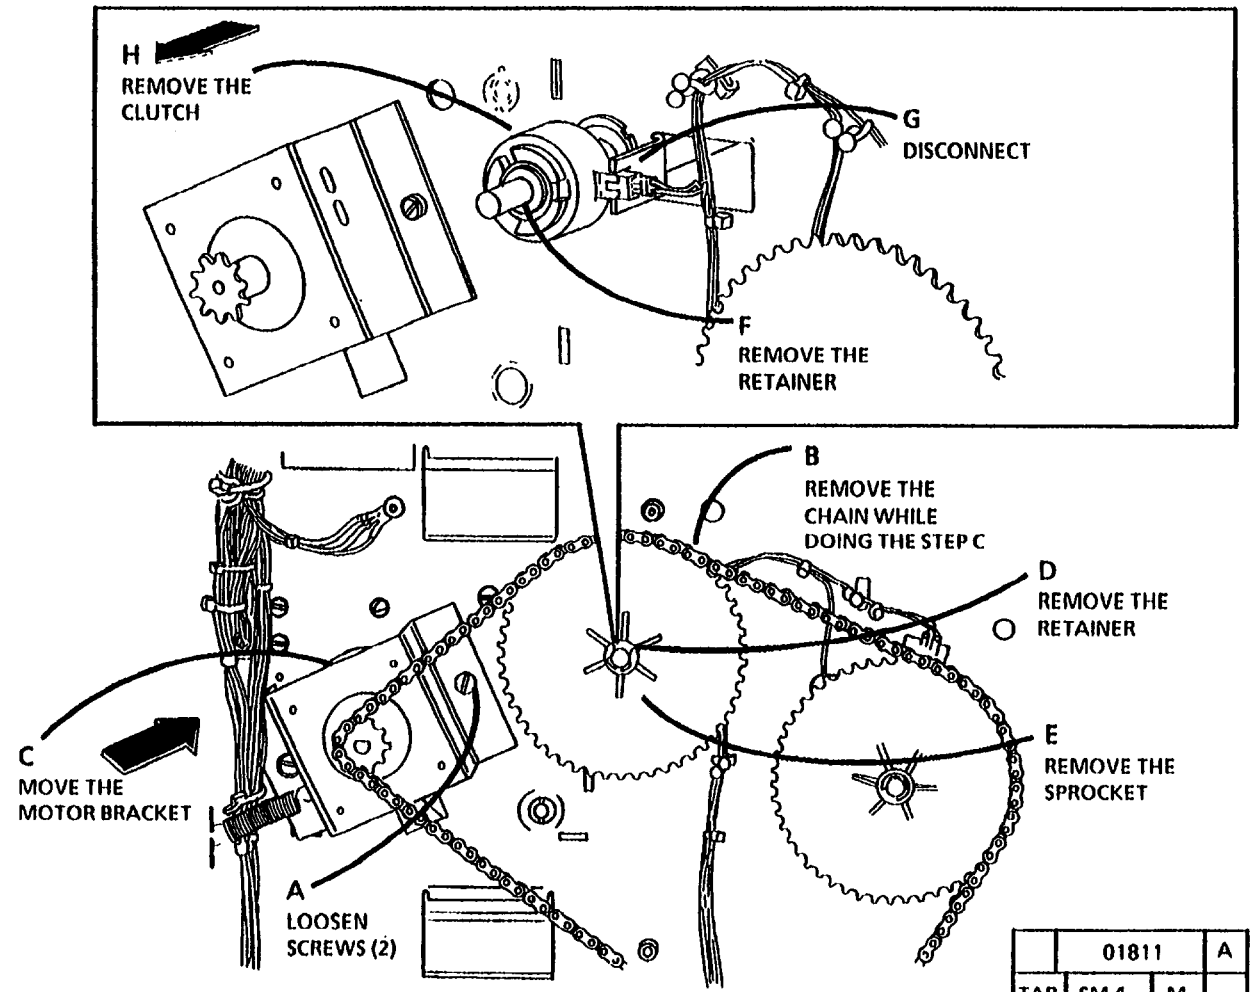

Figure 1. Remove the Clutch
- 3, (Figure 1): Remove the Clutch.